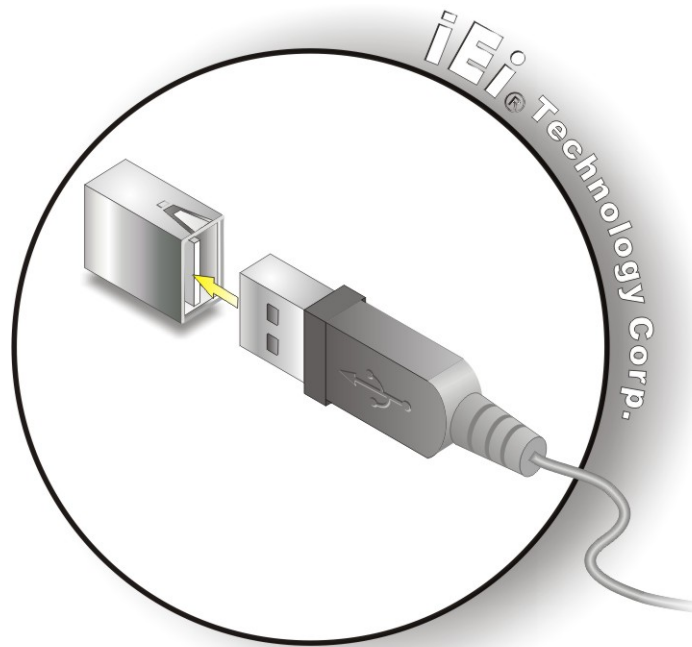

Figure 4-20: USB Connector
Step 2: **Insert a USB Series "A" plug.** Insert the USB Series "A" plug of a device into the USB Series "A" receptacle on the external peripheral interface. See **Figure 4-20**.